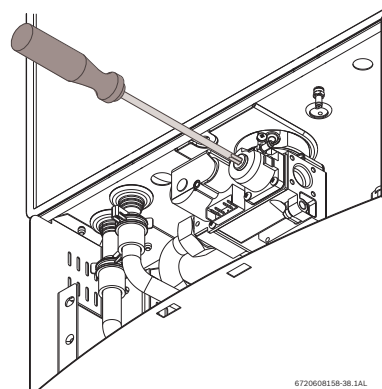

Fig. 68 Adjusting P2 CO2 level
- Remove yellow painted #40 Torx cover from the front of the gas valve. (Fig. 68) A plastic #40 Torx screw will be revealed.